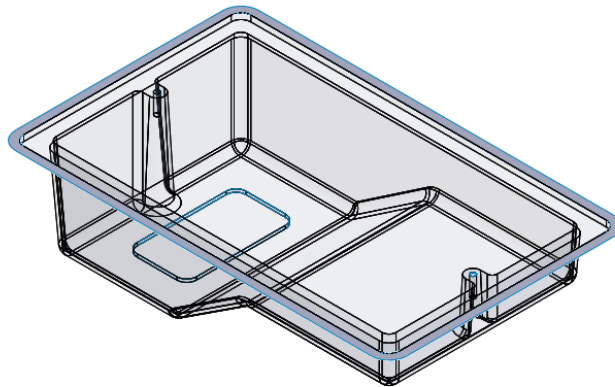

Figure 21-39 After creating the radiated surface
- f. Using the top-down approach, extract the core and cavity of the Plastic Cover, refer to Figures 21-39 through 21-47.
4. Using the **Radiate Surface** tool, create a radiated surface with the radiate distance of 9 mm, refer to Figure 21-39.